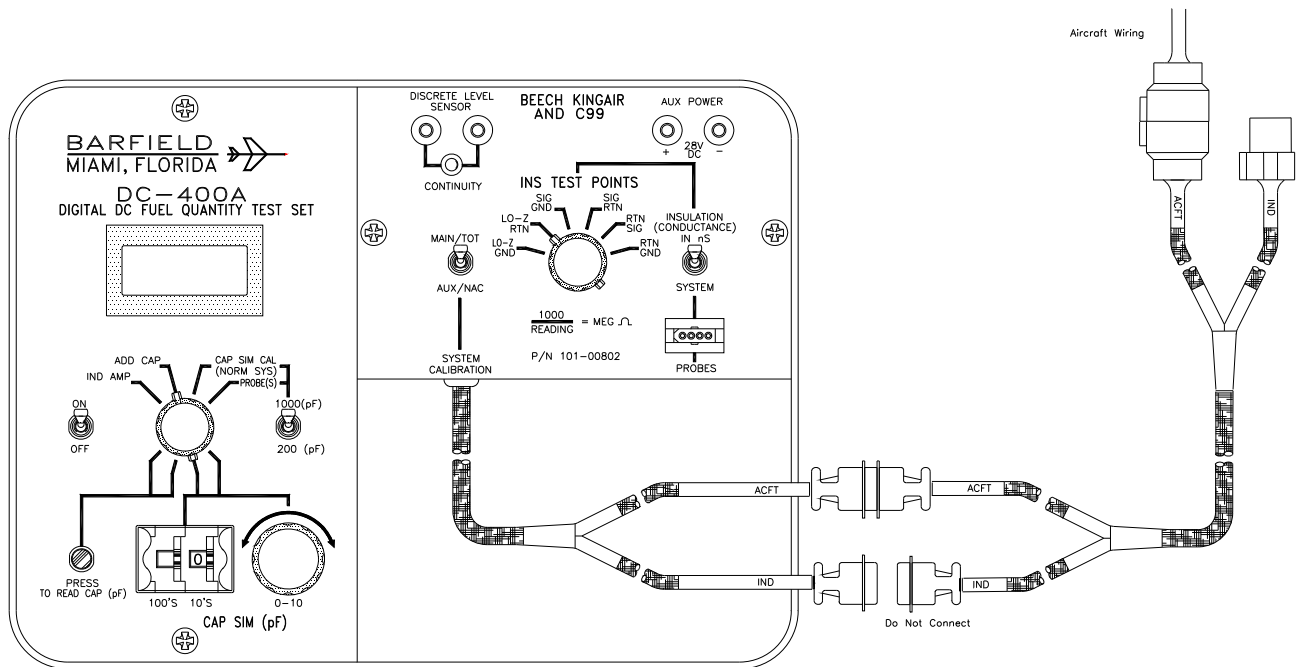
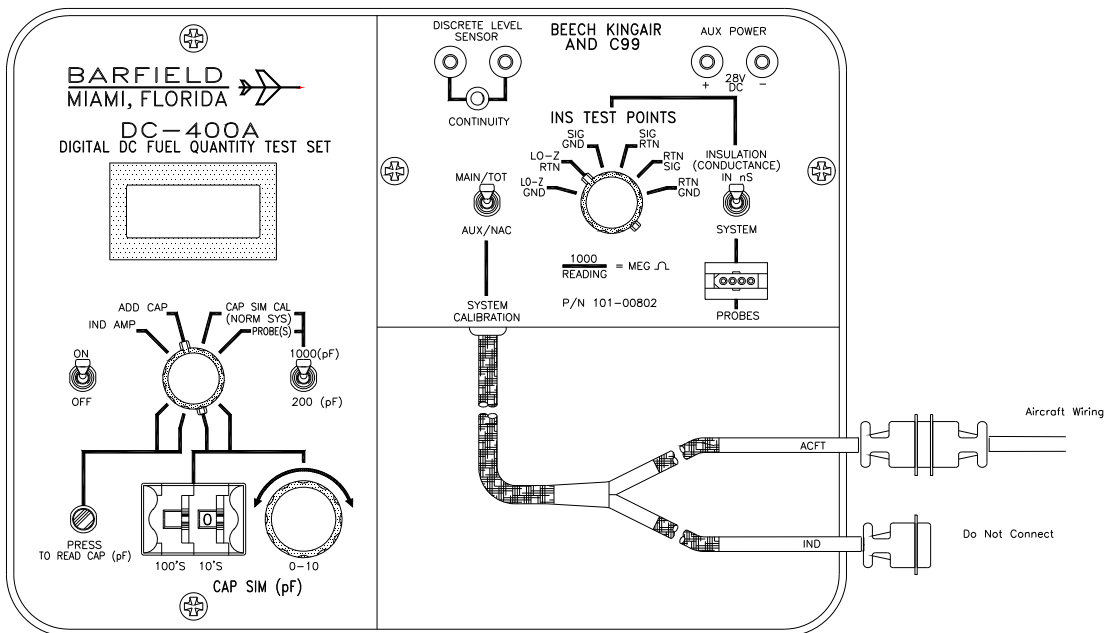

Figure 1 Insulation Test Connector Setup (With 101-00831 Adapter)
Figure 2 Insulation Test Connector Setup
- (1) Connect the test set as shown in either Figure 1 or Figure 2. Figure 1 depicts using Adapter Cable 101-00831 for conversion to systems with circular style connectors.